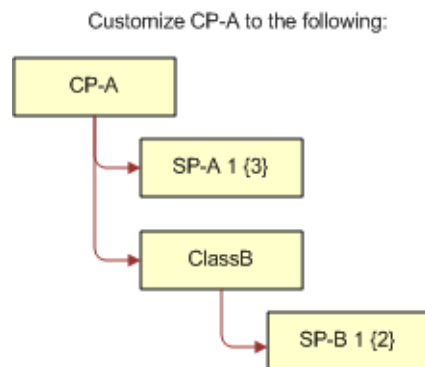

Figure 13. Customized CP-A
- 2 CP-A is then customized as shown in Figure 13.
Figure 13 shows the customized CP-A with the following structure: CP-A has a simple product relationship named SP-A defined and a Product Class named ClassB. Another simple product relationship named SP-B is defined and associated with ClassB. SP-A has a default quantity of 1 and the attribute value 3. SP-B has a default quantity of 1 and the attribute value 2.